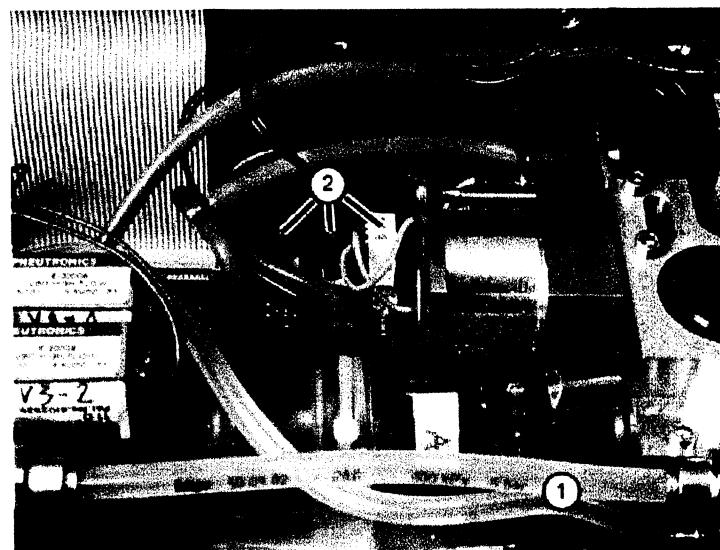

Fig. 8 Internal connections of the connector block
5. Remove the tubes Fig. 8/1 from the connector block.
6. Remove the connectors of valves V6 (PEEP valve), V7 and V8 from the sensor PCB Fig. 8/2.